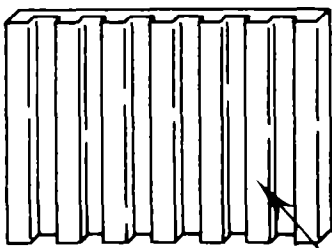

FIGURE 2
5. Break off the ribs on the door insulation to allow for the wood thickness. See Figure 2.